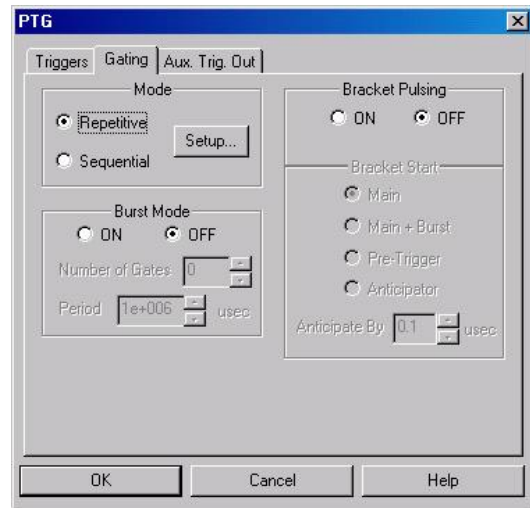

Figure 179. PTG Gating tab page
7. Click on the **Gating** tab (Figure 179).